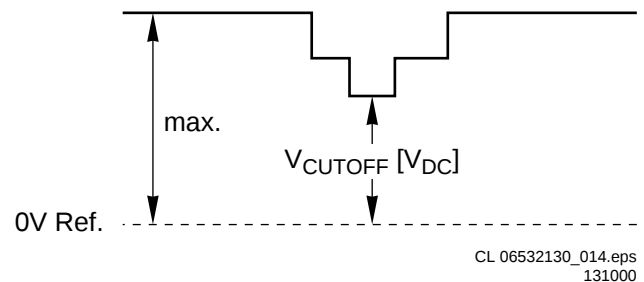

Figure 8-2 Vq2 waveform
11. Measure the cut off pulse during first full line after the frame blanking (see figure 8-2). You will see two pulses, one being the cut off pulse and the other being the white drive pulse. Choose the one with the lowest value; this is the cut off pulse.